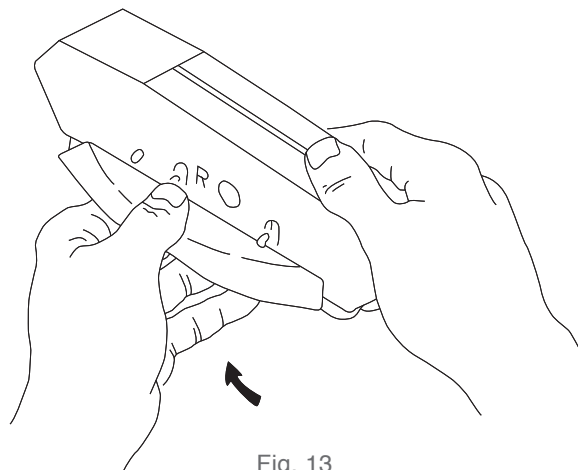

Fig. 13
- B. Remove the old wings by bending the wings up toward the sides of the cleaner, and lift them off their hooks (see Fig. 13). If any of the wing hooks are broken, take the StarzTruck automatic pool cleaner to your dealer for pod replacement as the cleaner will not function properly if the wings are not properly attached.